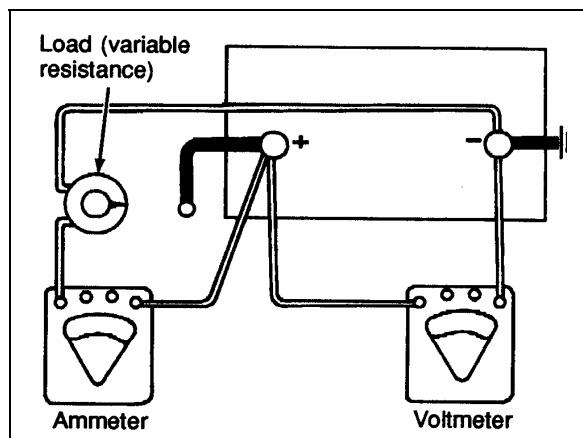

FIGURE 15: LOAD TEST
The test indicator in the battery cover is to be used with accepted diagnostic procedures only. It must not be used to determine if the battery is good or bad, charged or discharged. The test indicator is a built-in hydrometer in one cell that provides visual information for battery testing (Fig. 15).
1. Connect a voltmeter, ammeter, and a variable load resistance as illustrated in figure 15.